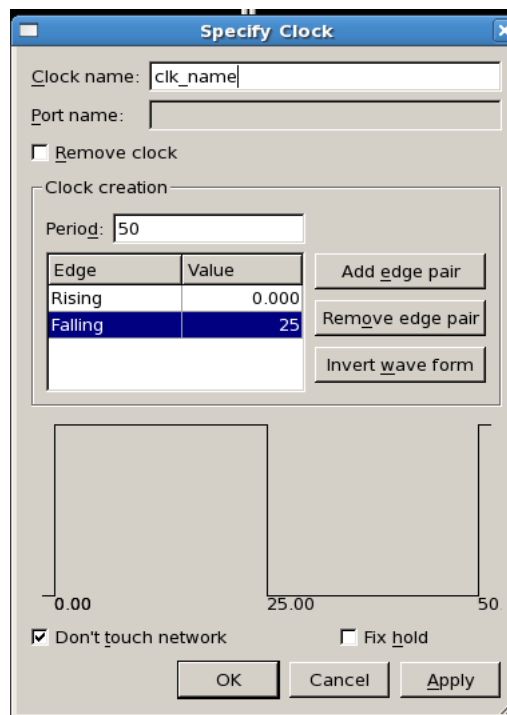

Fig. 5: Defining clock
2. Select Attributes ⇒ Clocks ⇒ Specify (see Fig. 5). Enter clock period in nanoseconds. Un check Don't Touch Network. This will force DC to insert clock tree buffers if needed to meet the design optimization requirements.